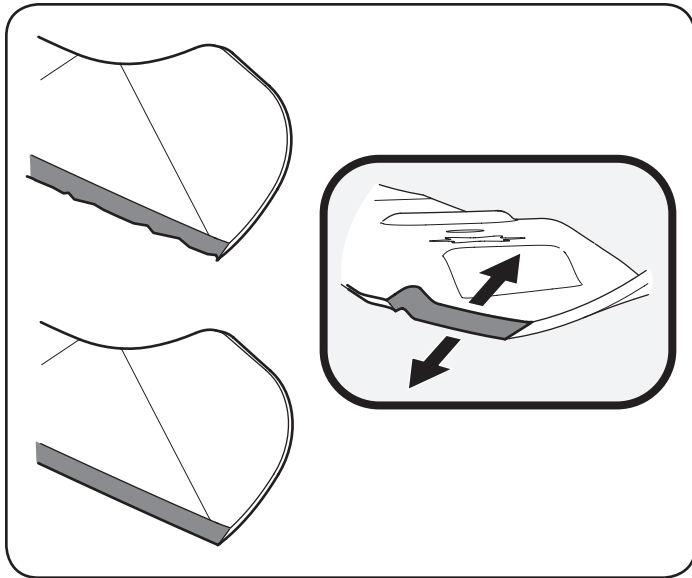

Figure 26
- To properly sharpen the cutting blades, remove equal amounts of metal from both ends of the blades along the cutting edges, parallel to the trailing edge, at a 25°- to 30° angle. Always grind each cutting blade edge equally to maintain proper blade balance. See Figure 26.